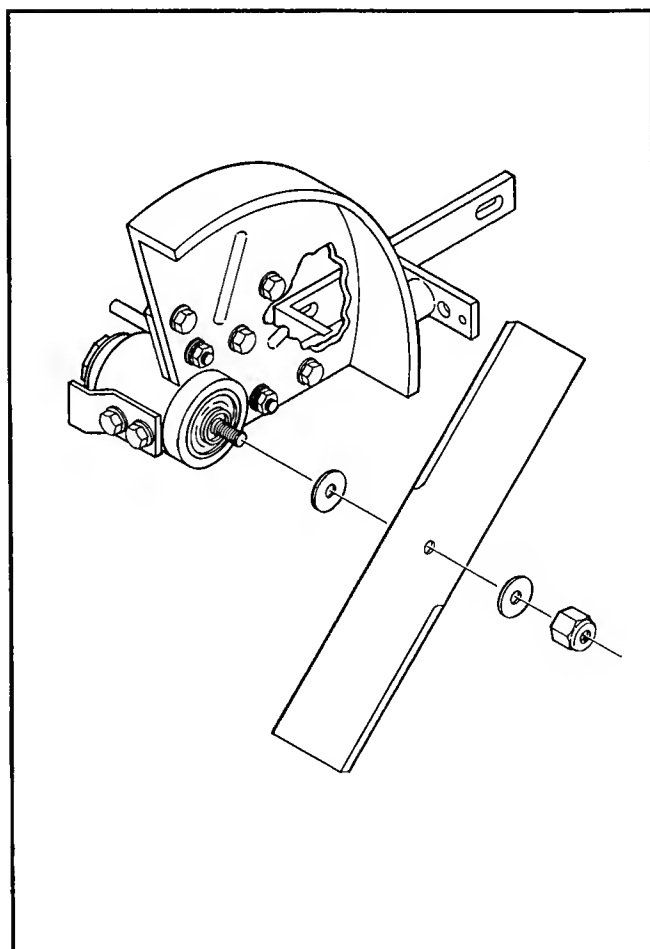

Figure 12
1. While holding hex nut on spindle pulley, remove nut and washer and carefully remove blade from assembly. (Figure 12)